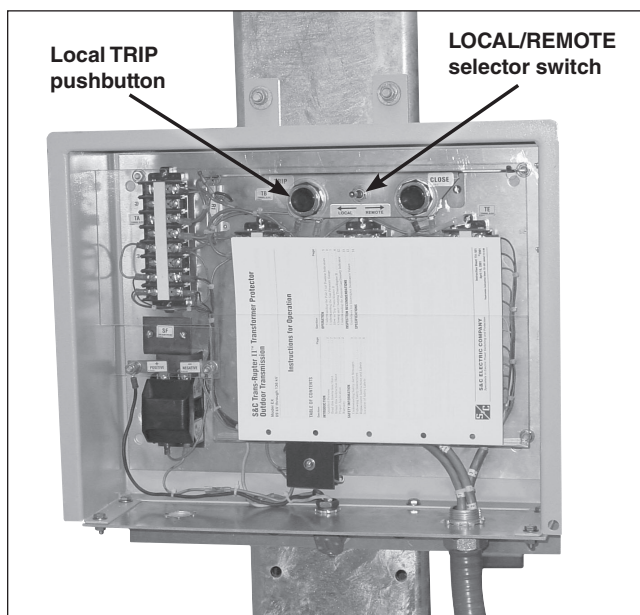

Figure 8. If furnished, press the local TRIP pushbutton to trip the Trans-Rupter II Transformer Protector.
- STEP 2.** Trip Trans-Rupter II Transformer Protector using the controls inside the low-voltage connection enclosure. See Figure 8.